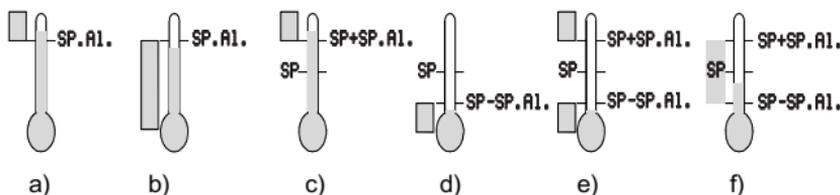

Fig.6.2. Kinds of alarms
- ♦ The kind of alarm (**TypeAI** parameter, see fig. 6.2.)